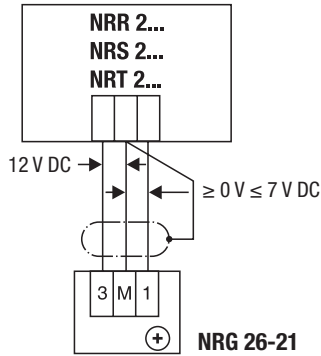

Fig. 10
1. Make sure that the system NRG 26-21 is wired according to the wiring diagram, **Fig. 10**.